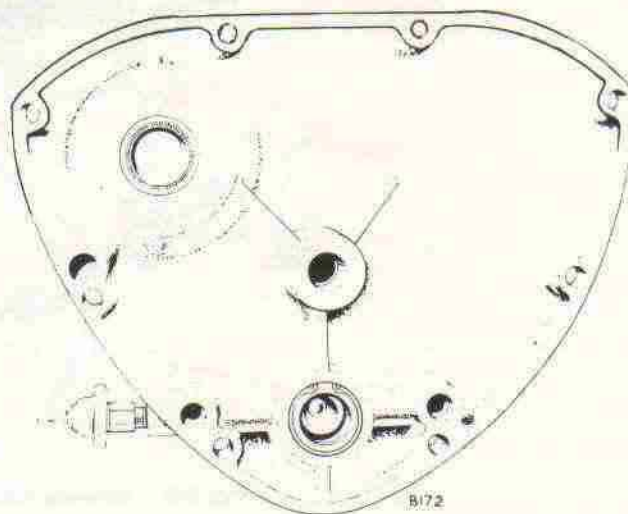

Fig. B24. Timing cover oil seal location
To replace the cover, first check that the oil seals are facing in the correct direction (see Fig. B24) and that the circlip is located correctly in its groove, then carefully clean the junction surfaces of the timing cover and crankcase and remove any traces of used jointing compound. Apply a fresh coat of a suitable proprietary jointing compound evenly over the timing cover junction surface. Screw the tapered adaptor pilot (service tool 61-7013) into the exhaust camshaft and smear it with oil to assist assembly. Check that both the location dowels are in their correct positions, slide the cover into position and screw in the eight recessed screws.
**NOTE:** The three longer screws should be fitted in the holes marked "X" in Fig. B24.